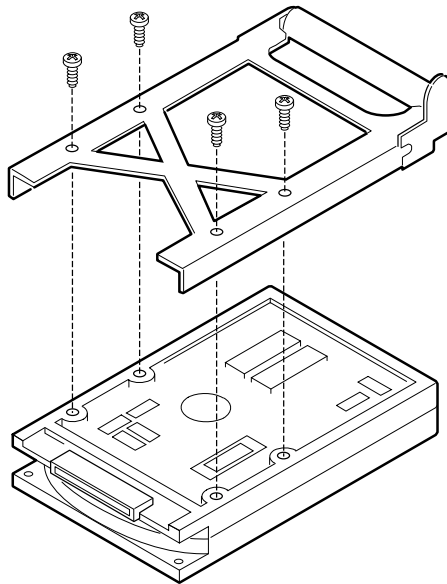

Figure 20: Hard Disk Drive and Carrier
3. Using four screws of the correct size and length (not supplied), attach the carrier to the drive (see Figure 20).